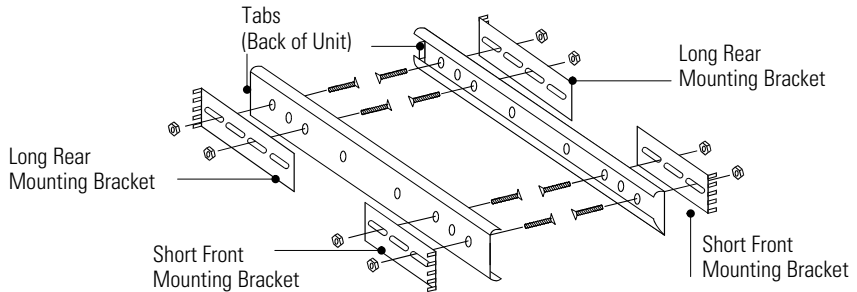

Figure 16. Securing the Brackets to the Outer Rails
6. Secure the supplied long and short mounting brackets to the outer rail using at least two flat-head screws and nuts for each bracket (see Figure 16). Leave all screws finger-tight until the rails are sized for the rack.